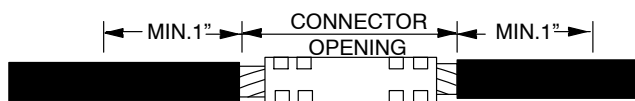

FIGURE 3
3. Install the compression sleeve. Make as many crimps as possible without overlap. Use the dies shown in the table. Remove the excess flash and inhibitor. See Figure 3.